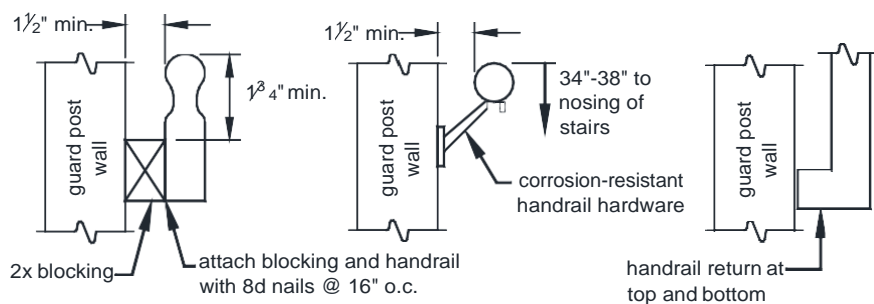

FIGURE 42: HANDRAILS
- Handrails shall be attached to a stair guard or exterior wall acting as a barrier as shown in see FIGURE 42.